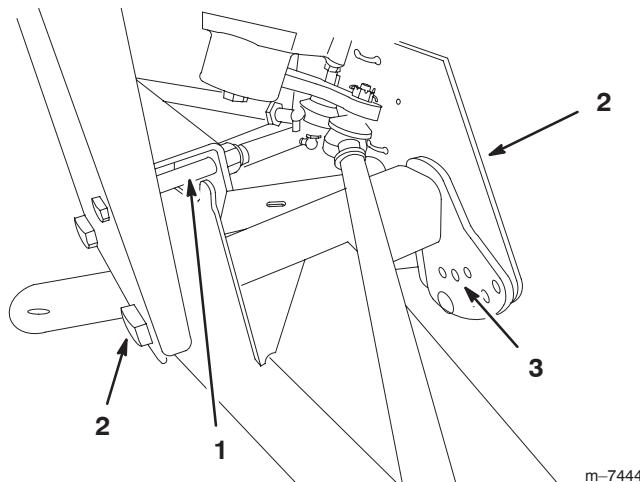

Figure 32
2. Remove the travel limiting bolt (Fig. 32).
3. Loosen the centering bolts in the front A-arm (Fig. 32).
- Remove the ride height adjustment bolt (Fig. 32).
- Rotate the front A-arm to the desired position (refer to the note below) and replace the ride height adjustment bolt (Fig. 32).
- Replace the travel limiting bolt (Fig. 32).